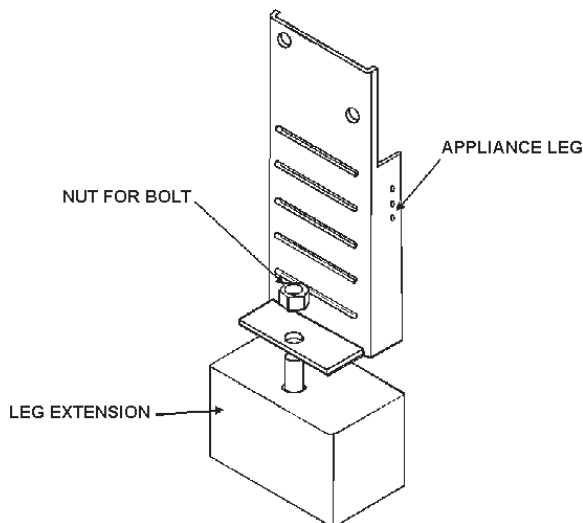

Figure 7. Leg Extension
4. Front of leg should line up with front of leg extension as shown in *Figure 7* to make sure weight of unit is distributed through the leg extension.